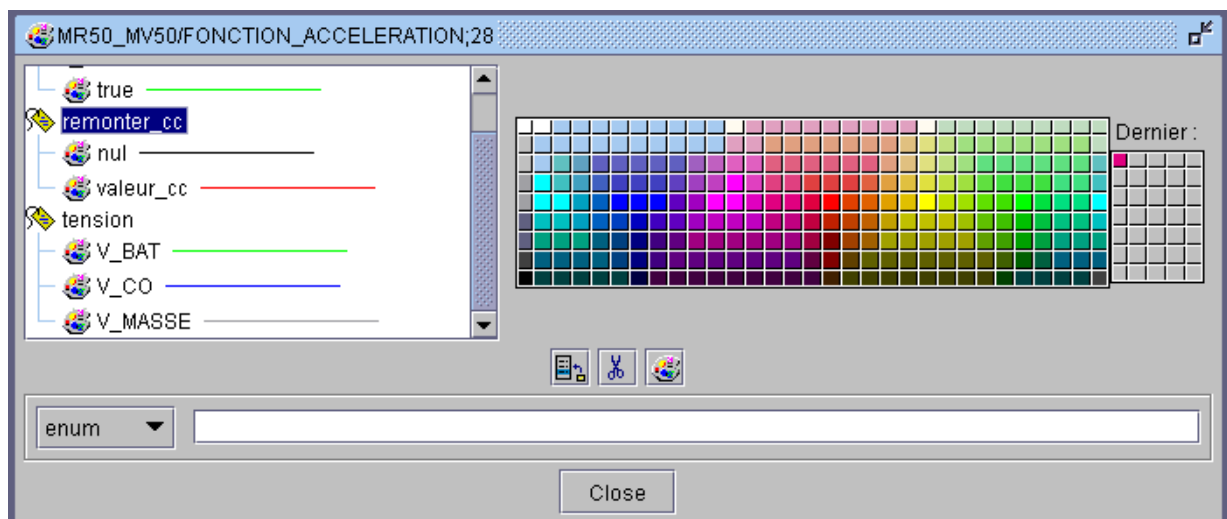

Figure 158 : Links colour
- ♦ E.g.: To select a predefined type variable, type pressure in the enum field; the following window is displayed (Figure 158) :